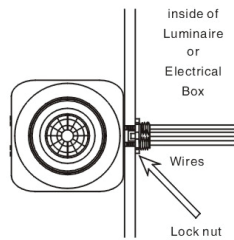

Fig. 3A
- 2.Slide the lock-nut over the wires and thread clockwise on to the threaded nipple to secure the sensor firmly in place making sure the lens is orientated towards the area to be monitored(field-of-view). (refer to Fig.3A)